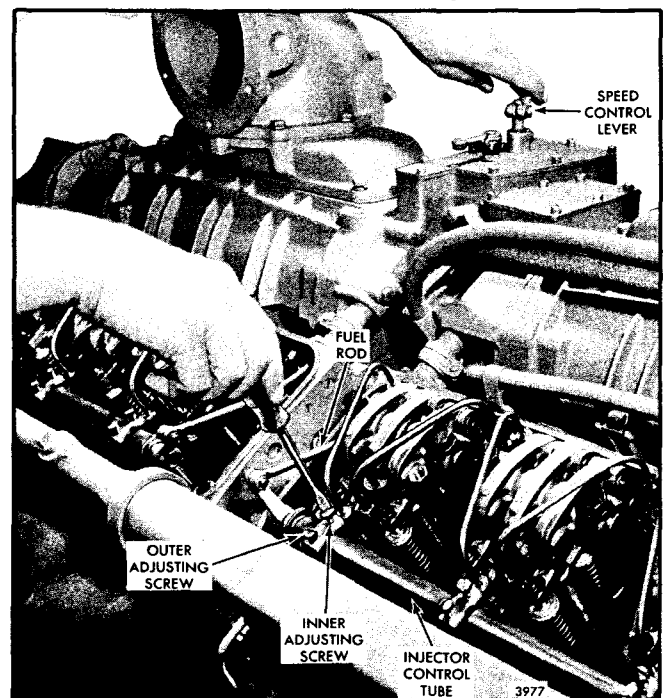

Fig. 4 - Positioning No. 4L Injector Rack Control Lever
7. Hold it with light finger pressure (Fig. 4) and adjust the No. 4R injector rack by turning the inner adjusting screw down until a slight movement of the control tube is observed or a step-up in effort to turn the screw driver is noted. This will place the rack in the full-fuel position. Turn the outer adjusting screw until it bottoms lightly on the control tube. Then tighten both the inner and outer adjusting screws alternately.